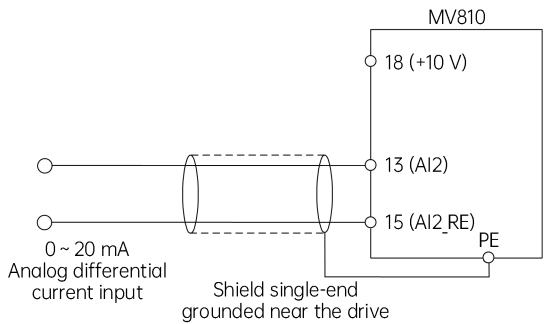
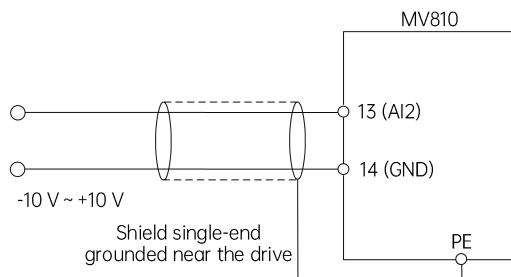
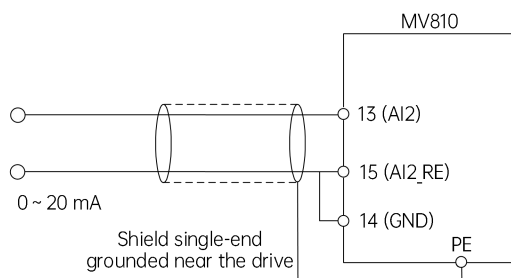

Fig. 4-6 Terminal 13 current differential input wiring
Fig. 4-7 Terminal 13 voltage single-ended input wiring
Fig. 4-8 Terminal 13 current single-ended input wiring
- (2) Terminal 13 receives the analog current differential input or analog voltage/current single-ended input. The voltage or current input type can be selected through the ones place of P09.02. The wiring method is shown in Fig. 4-6, Fig. 4-7 and Fig. 4-8.